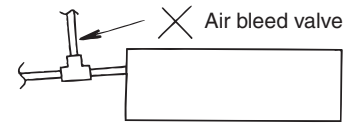

Fig. 3-64
- Do not install an air bleeder as this may cause water to spray from the drain pipe outlet. (Fig. 3-64)